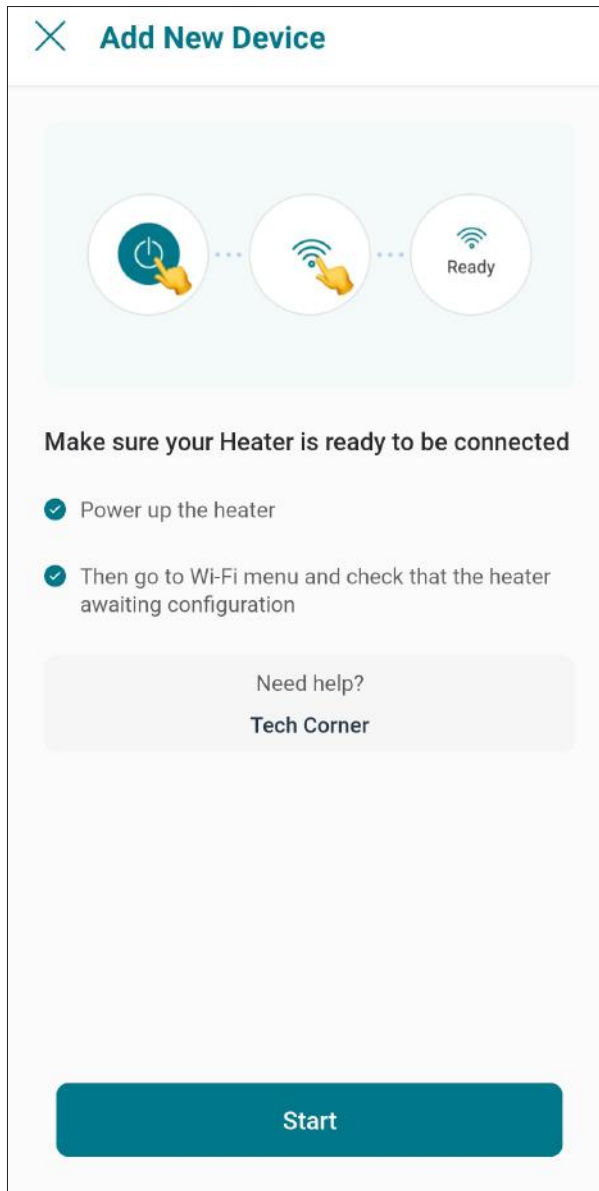

Figure 99. Check your Unit
- "Check your Device" screen will appear. Ensure to have the heater powered and Wi-Fi signal available in the area, then press "Ready" button. See Figure 99.